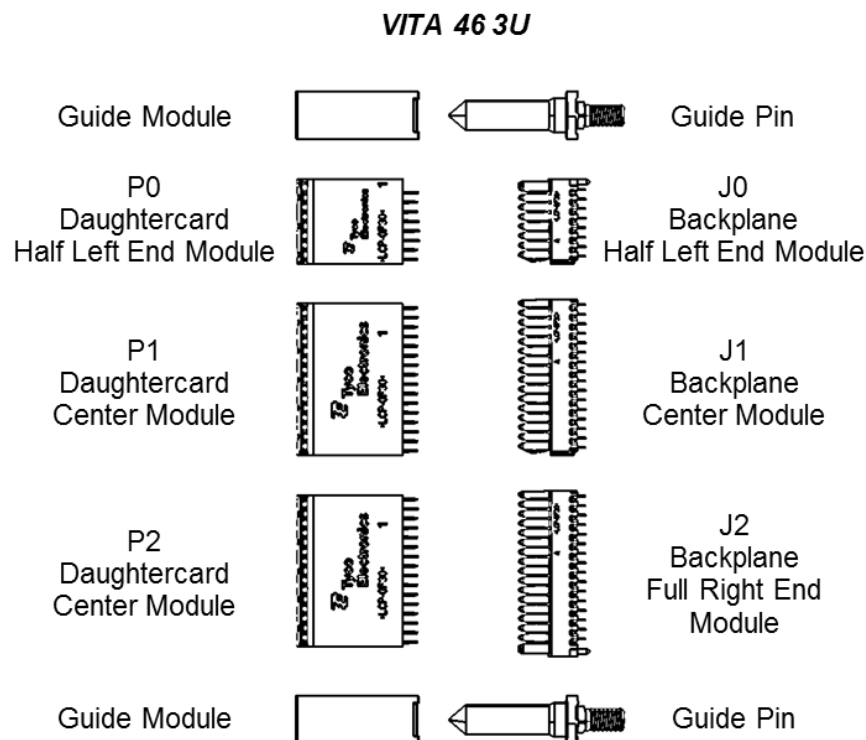

Figure 4: VITA 46 3U Configuration
- See Figure 4 through Figure 10 for examples of standard VPX configurations and part numbers